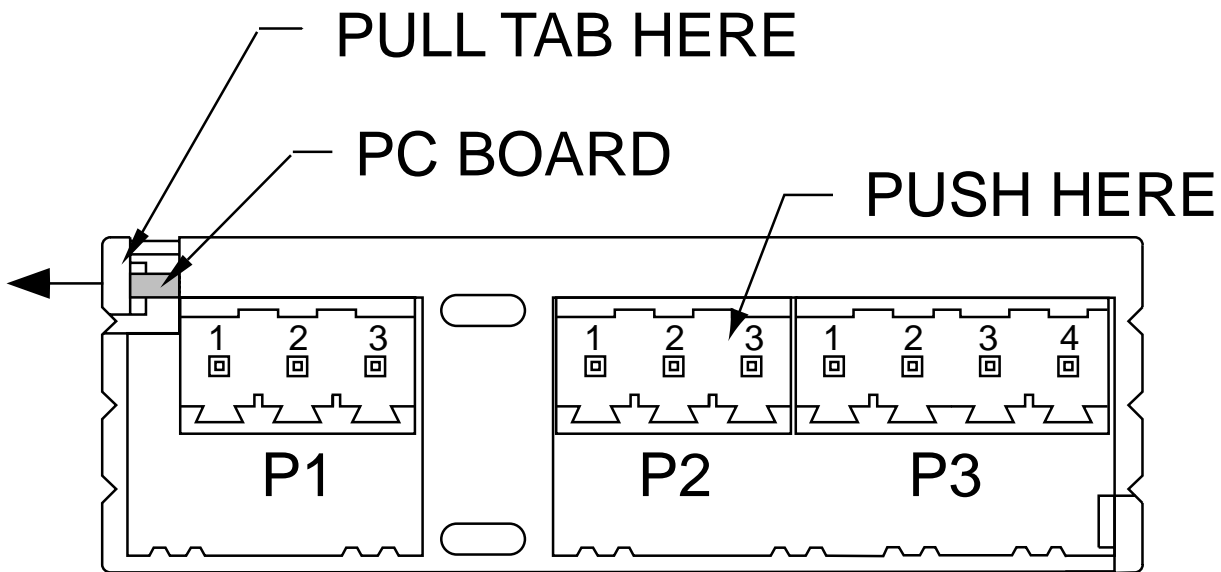

Figure 3-13. Removing the PC Board from the Case
2. Unplug the three connectors (P1, P2, and P3) from the back of the meter. Grasp them firmly on the top and bottom of the connector and pull. **Figure 3-13** shows the location of the three connectors.
4. The printed circuit board is held in place by a tab and notch system located next to the P1 connector, pin 1 (refer to **Figure 3-13**). The tab is on the case and the notch is on the edge of the PC Board. Hold the meter with the display facing away from you. Gently pry the tab (on the back corner of the case) out with the edge of your finger, while pushing the back of the PC Board out through the front of the meter. The PC Board will slide out the front, free from the case.